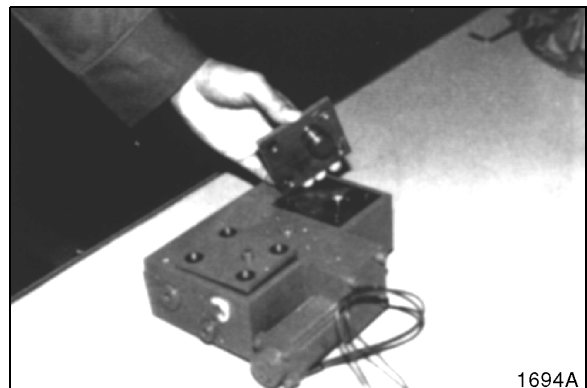

Figure 100
9. Install plate in cover. See Figure 100.